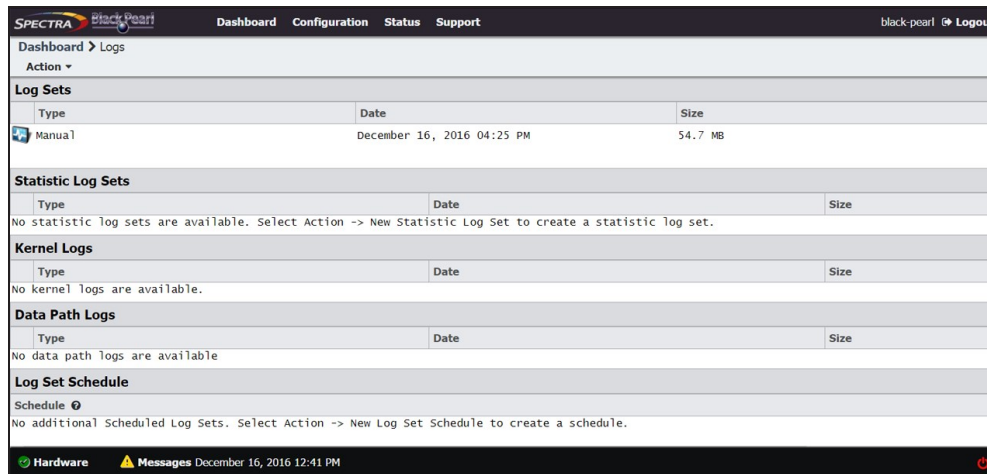

Figure 311 The Logs screen.
1. From the menu bar, select **Support > Logs**. The Logs screen displays (see Figure 311).
1. From the menu bar, select **Support > Logs**. The Logs screen displays (see Figure 311 on page 392).